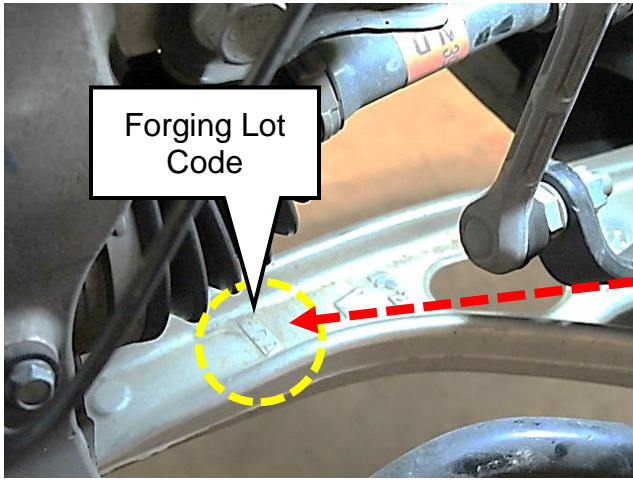

Figure 4
4. Locate three-digit TV Link Forging Lot code on the top side of both TV Links. (Figures 4 & 5)